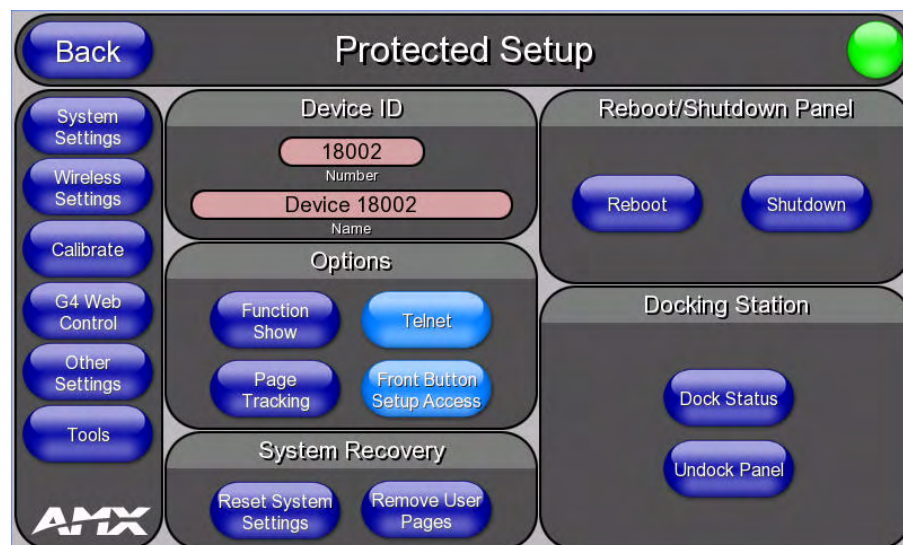

FIG. 14 Protected Setup page
2. Press the **Protected Setup** button. This opens a keypad for entry of the password to allow access to the *Protected Setup* page (FIG. 14). Enter the device's password and press **Done** to proceed.